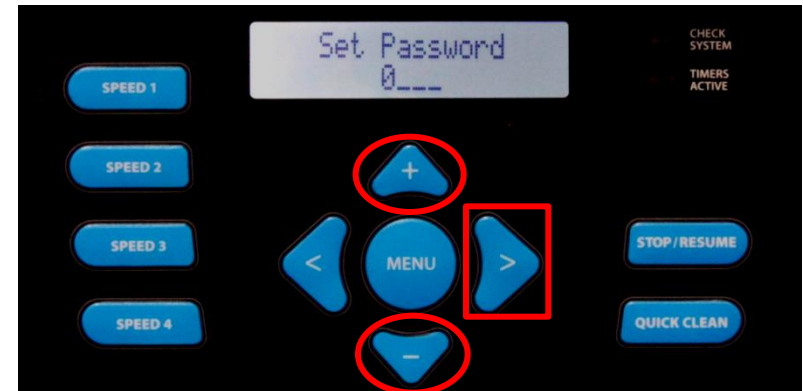
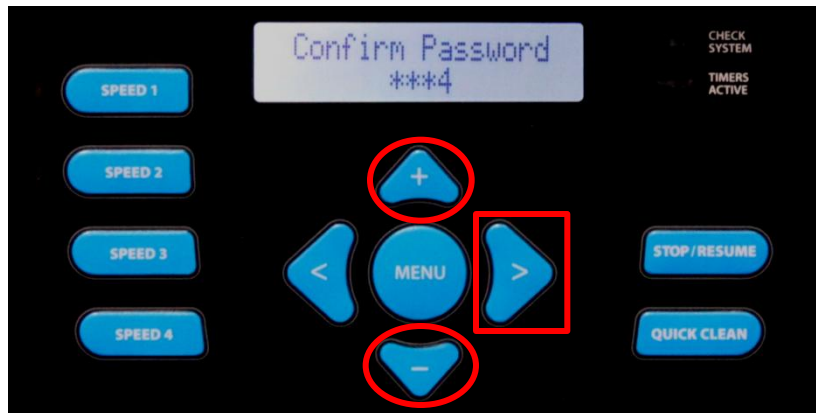

Figure 80
Figure 81
4. If you selected to change the password you will see this screen (fig 80) to set the password and the next screen (fig 81) to confirm the password. Use the  &  button to change the password number and the  button to move between password characters and on to the next screen.